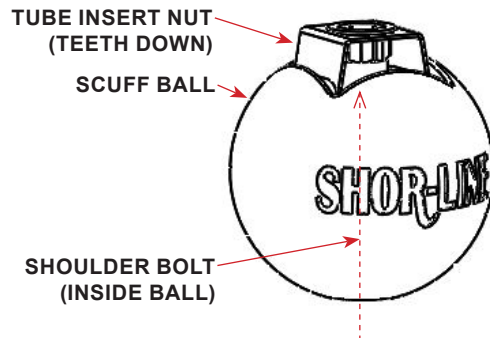

FIGURE 2.5 - Tube Insert Nut
STEP 5: Thread the shoulder bolt through the bottom hole of the scuff ball and into the insert nut (teeth towards bolt) until the insert nut is just below the top of the scuff ball. See FIGURE 2.5